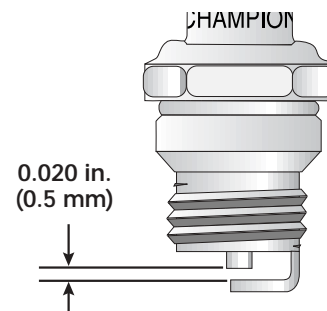

Fig. 67
3. Replace a cracked, fouled or dirty spark plug. Set the air gap at **0.5 mm (0.020 inch)** using a feeler gauge (Fig. 67).